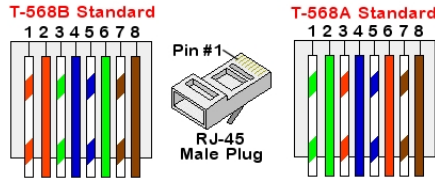

Figure 30: Standard cable wiring
- c. Insert the eight wires into an RJ45 connector, as described in *Figure 30*
8. For the switch/router side, use a pre-terminated cable or use a crimper to prepare an RJ45 communication connector: Insert the eight wires into the RJ45 connector in the same order as above (*Figure 30*).